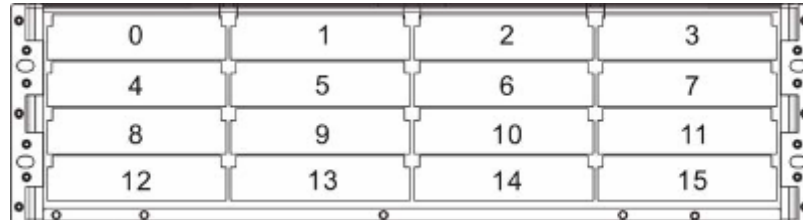

Figure 2-2: Drive Slot Numbering Sequence
The front panel of the X4 enclosure houses sixteen (16) hard drives in a 4x4 configuration as shown in **Figure 2-2**. When viewed from the front, drive bays (slots) are numbered **0** to **15** from the left to the right, and then from the top to the bottom.